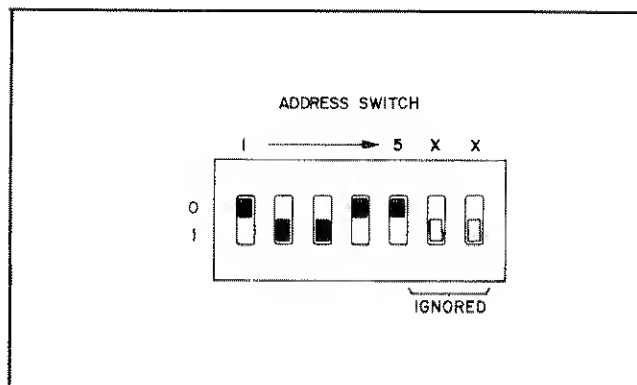

Figure 2-4. Listen Address Switches on Rear of 59501A
2-23 The listen address for the 59501A is selected by address switches on the rear of the unit. The switches are factory set to the suggested listen address of & when the unit is shipped from the factory. As shown in Figure 2-4, there are seven address switches. The last two switches, 6 and 7 (XX), are ignored (have no affect). Switches 1, 4, and 5 are set to "0" and switches 2 and 3 are set to "1" to select a listen address of "&". Note that "&" is the suggested listen address and is one of 31 listen address possibilities. The address switch settings for each of the 31 listen address possibilities are listed in Table 2-1.